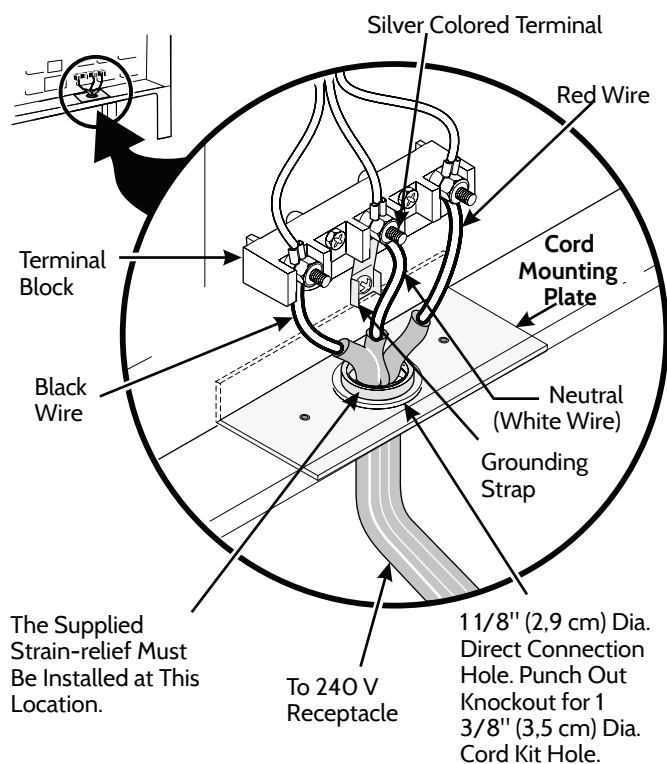

Figure 8
NOTE: Electric Range is shipped from factory with 1 $\frac{1}{8}$ " (2,9 cm) dia. hole as shown on figure 8. If a larger hole is required, punch out the knockout.
If local codes permit connection of the frame grounding conductor to the neutral wire of the copper power supply cord (see Figure 8):
3. Using the nuts supplied by the manufacturer, connect the neutral of the copper power supply cord to the center silver-colored terminal of the terminal block, and connect the other wires to the outer terminals. Match wires and terminals by color (red wires connected to the right terminal, black wires connected to the left terminal) (see figure 8).